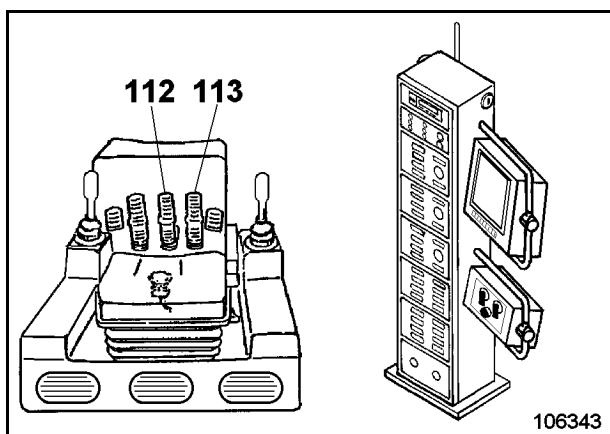

Fig. 2-81:
- pedals (112 and 113, Fig. 2-81:) and
- Depress pedals (112 and 113, Fig. 2-81:) fully to the limit stop.